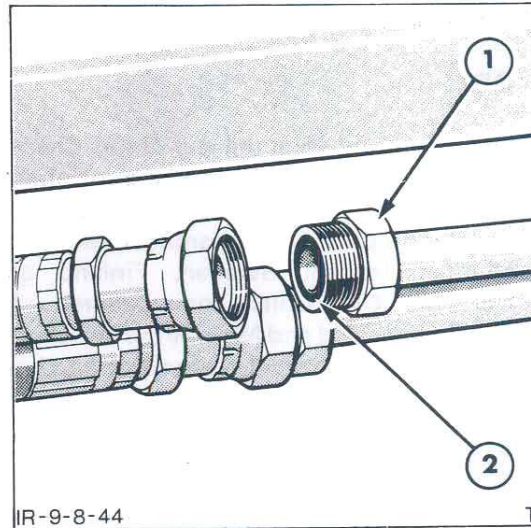

Figure 44
2. Dip a new 'O' ring seal into clean hydraulic oil prior to installation. Install the new 'O' ring into the fitting and if necessary retain in position using petroleum jelly, Figure 44.